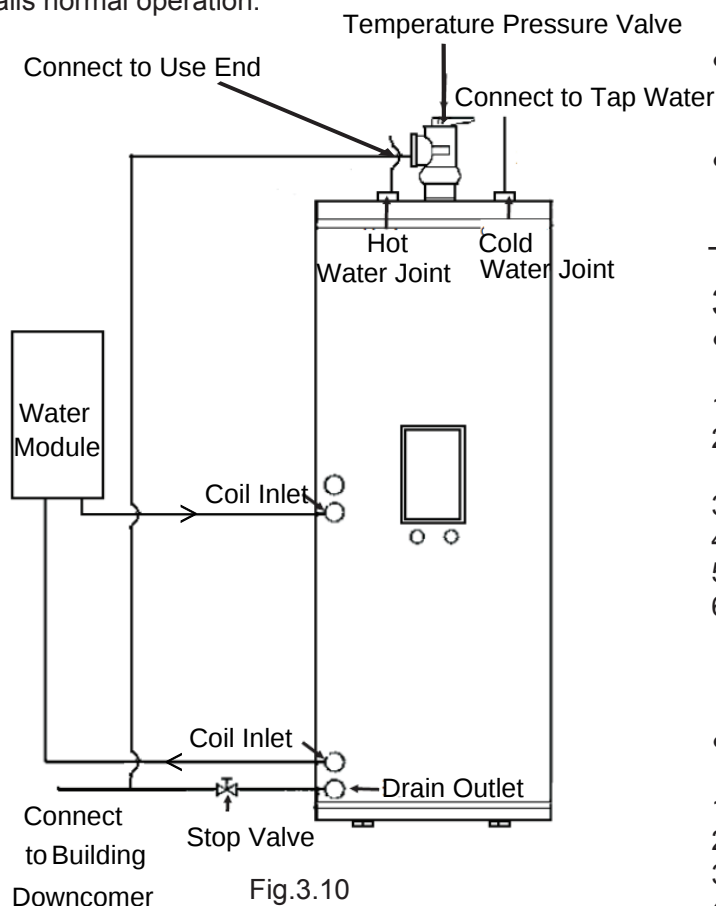

Fig.3.10
- Temperature pressure valve must be tightly connected with drainage tube. Drainage tube must be connected as shown in Fig.3.10 and introduced to building downcomer (The water temperature in drainage tube may be high, note burns).
Connect pipeline of water tank as shown in Fig.3.10. The size of connecting pipe thread of water tank is seen below.
- Temperature pressure valve may spray hot water. To avoid hurting people, proper pipe joint must be connected to temperature pressure valve, and connect temperature pressure valve to stop valve of drain outlet through PPR tube, seen in Fig.3.10.
6. Open temperature pressure valve to ensure water flows through effluent pipe (move ball type wrench to the left). The location of temperature pressure valve refers to Fig.3.10.